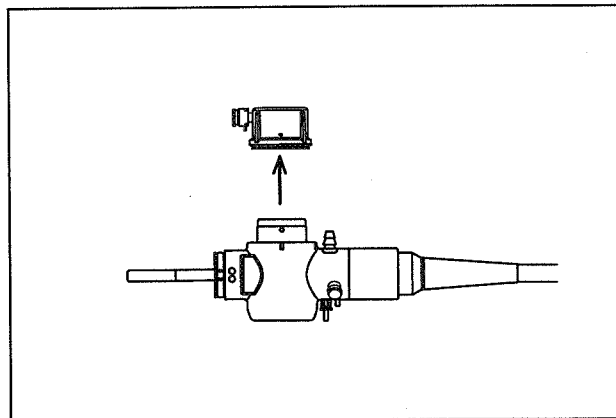

Figure 3.26
1. Remove the water-resistant cap before ETO gas sterilization (see Figure 3.26).